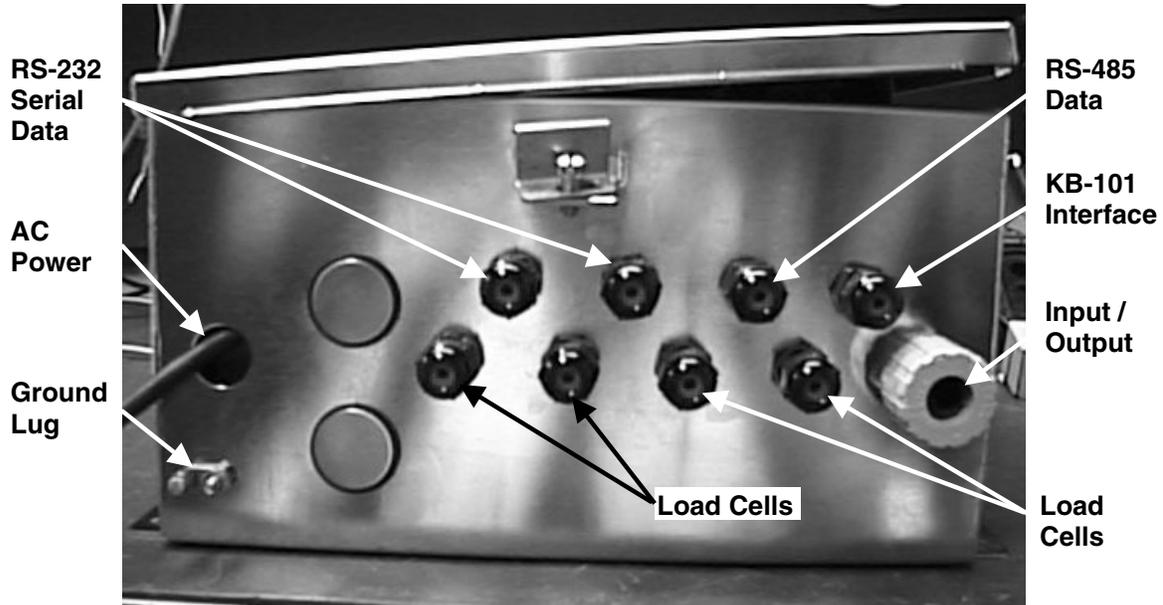

Figure No. 18
Loosen the cable gland connector for the load cell. This gland connector is located on the bottom of the enclosure. Refer to Figure No. 18 for an illustration of the gland connector layout.
1. Loosen the cable gland connector(s) for the RS-232 serial cable. The gland connector(s) for the RS-232 serial data are located on the bottom of the enclosure. Refer to Figure No. 18 for an illustration of the gland connector layout.
1. Loosen the cable gland connector for the RS-485 data cable. The gland connector for the RS-485 data cable is located on the bottom of the enclosure. Refer to Figure No. 18 for an illustration of the gland connector layout.
1. Loosen the cable gland connector for the KB-101 Keyboard cable. The gland connector for the KB-101 keyboard cable is located on the bottom of the enclosure. Refer to Figure No. 18 for an illustration of the gland connector layout.
1. Remove the (2) Phillips head screw retaining the AC power connection cover.
2. Referring to Figure No. 18 for an illustration of the gland connector and conduit hole layout, use the 1/2" conduit hole to bring the AC power into the enclosure. Use a seal-tite or rigid conduit fitting to make a water-tight connection.